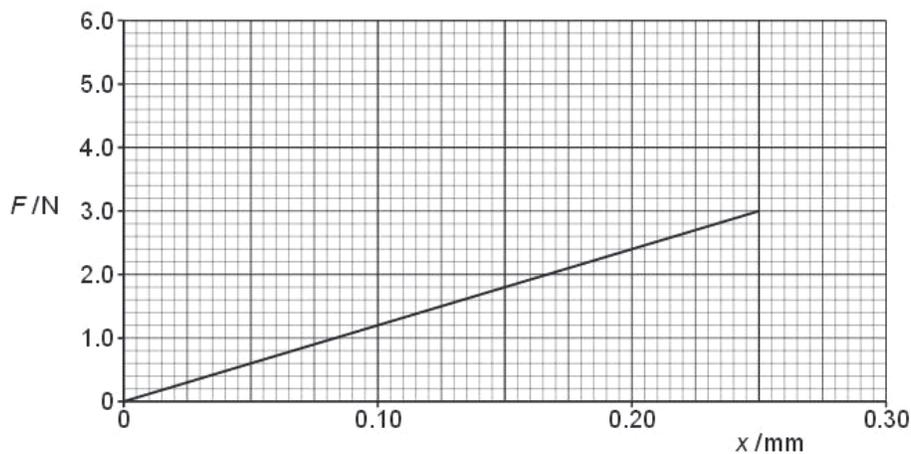

Fig. 5.1
(b) A load F is suspended from a fixed point by a steel wire. The variation with extension x of F for the wire is shown in Fig. 5.1.
(i) State two quantities, other than the gradient of the graph in Fig. 5.1, that are required in order to determine the Young modulus of steel.
- (iii) A load of 3.0N is applied to the wire. Use Fig. 5.1 to calculate the energy stored in the wire.
On Fig. 5.1, sketch the variation with x of F for the copper wire for extensions up to 0.25mm. The copper wire is not extended beyond its limit of proportionality. [2]